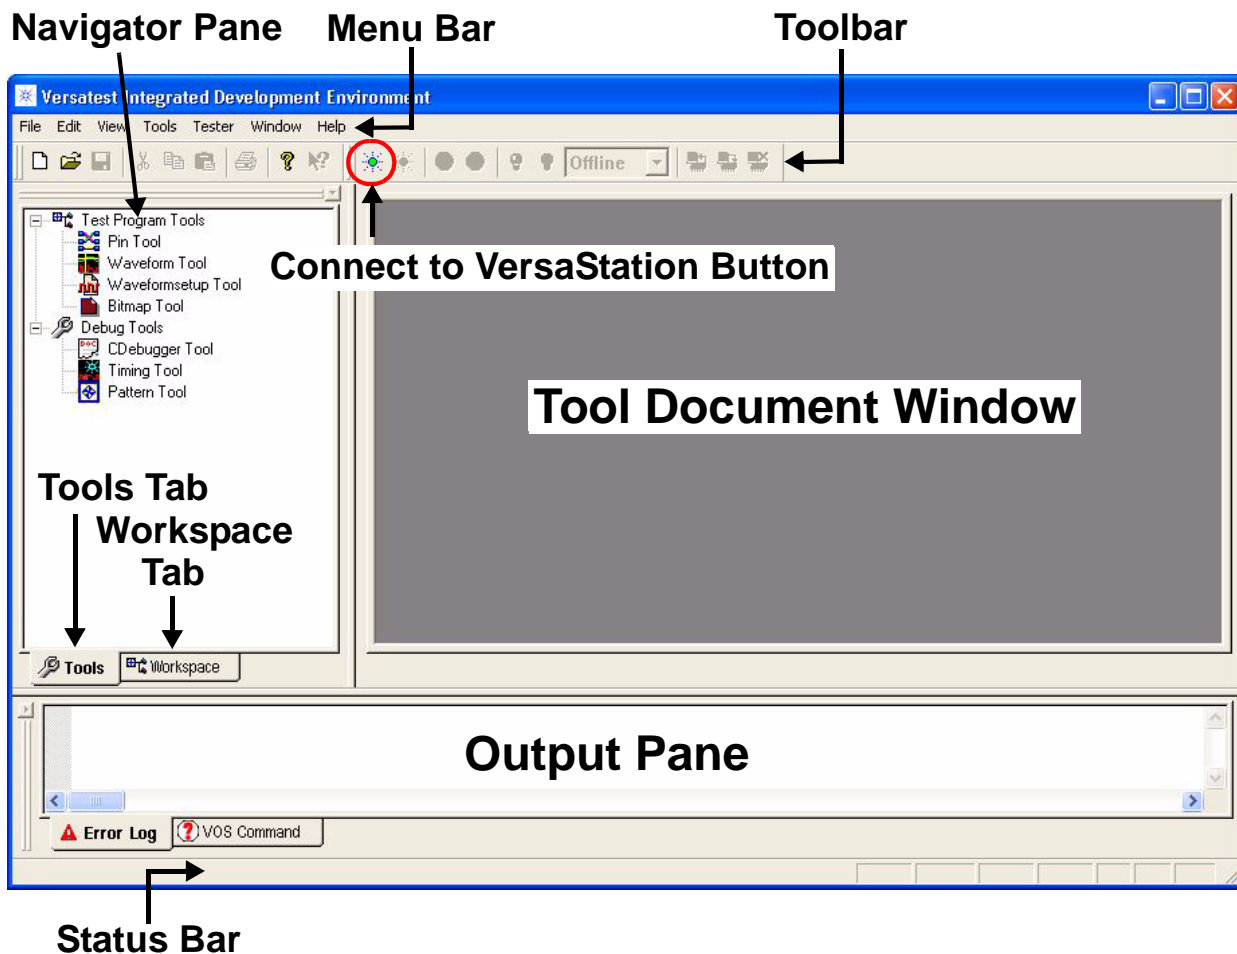

Figure 7-38. Versatest Integrated Development Environment Main Window
- 1 Selecting  > Programs > Versatest Test System Software > Integrated Development Environment displays its default main window (Figure 7-38).